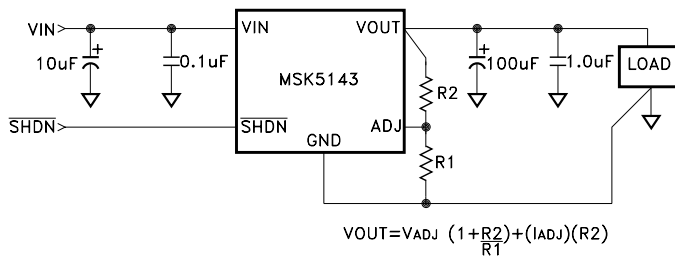

FIGURE 1
- (1) The output is decoupled to ground using a 100μF low ESR tantalum capacitor in parallel with a 1μF ceramic capacitor. See figure 1 for typical circuit.
- (2) Guaranteed by design but not tested. Typical parameters are representative of actual device performance but are for reference only.
- (3) Industrial grade devices shall be tested to subgroups 1 unless otherwise requested.
- (4) Military grade devices ("H" suffix) shall be 100% tested to subgroups 1,2 and 3.
- (5) Subgroup 1 TA = +25°C
The output voltage range of the MSK5143 is 1.21V to 20V. The output voltage is set by the ratio of two external resistors as shown in Figure 1. The device monitors the output to maintain the voltage at the ADJ pin. The ADJ pin is the input to the error amplifier. It has a bias current of 3μA which flows through R2 into the pin. The ADJ pin voltage is 1.21V referenced to ground. The value of R1 should be less than 4.17K to minimize errors in the output voltage caused by the ADJ pin bias current. Reference the typical performance curves for load regulation variation due to the change in the output voltage.